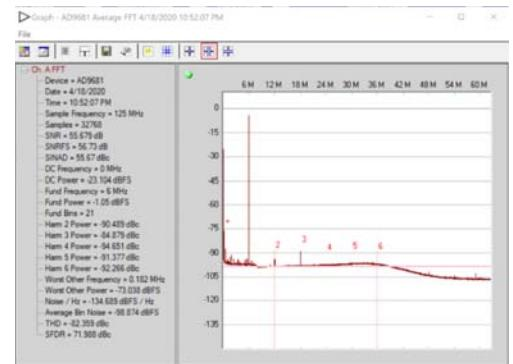
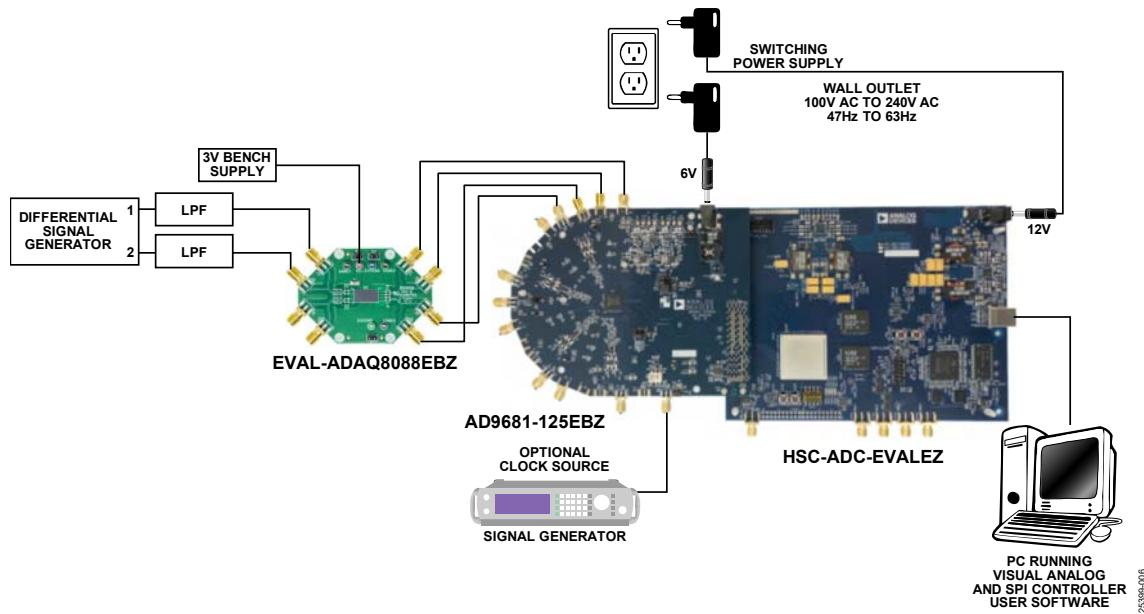

Figure 5. Fast Fourier Transform (FFT) Result
Figure 6. EVAL-ADAQ8088EBZ, AD9681-125EBZ, and HSC-ADC-EVALEZ Connections
2. Take the following steps to modify the AD9681-125EBZ (FMC connector version) of each channel selected (Figure 6 shows Channel A1 and Channel A2 selected for use):
3. Connect the EVAL-ADAQ8088EBZ to the AD9681-125EBZ, as shown in Figure 6, and then connect the AD9681-125EBZ to the HSC-ADC-EVALEZ by aligning each of their field programmable gate array mezzanine card (FMC) connector and carefully press them together. Note that FMC connectors often come from the factory with a sticker that prevents connection. Remove this sticker (if needed) before attempting to make the connection.
- The I-channel and Q-channel are driven and measured (refer to Figure 6). A sample FFT of the measurement is shown in Figure 5.